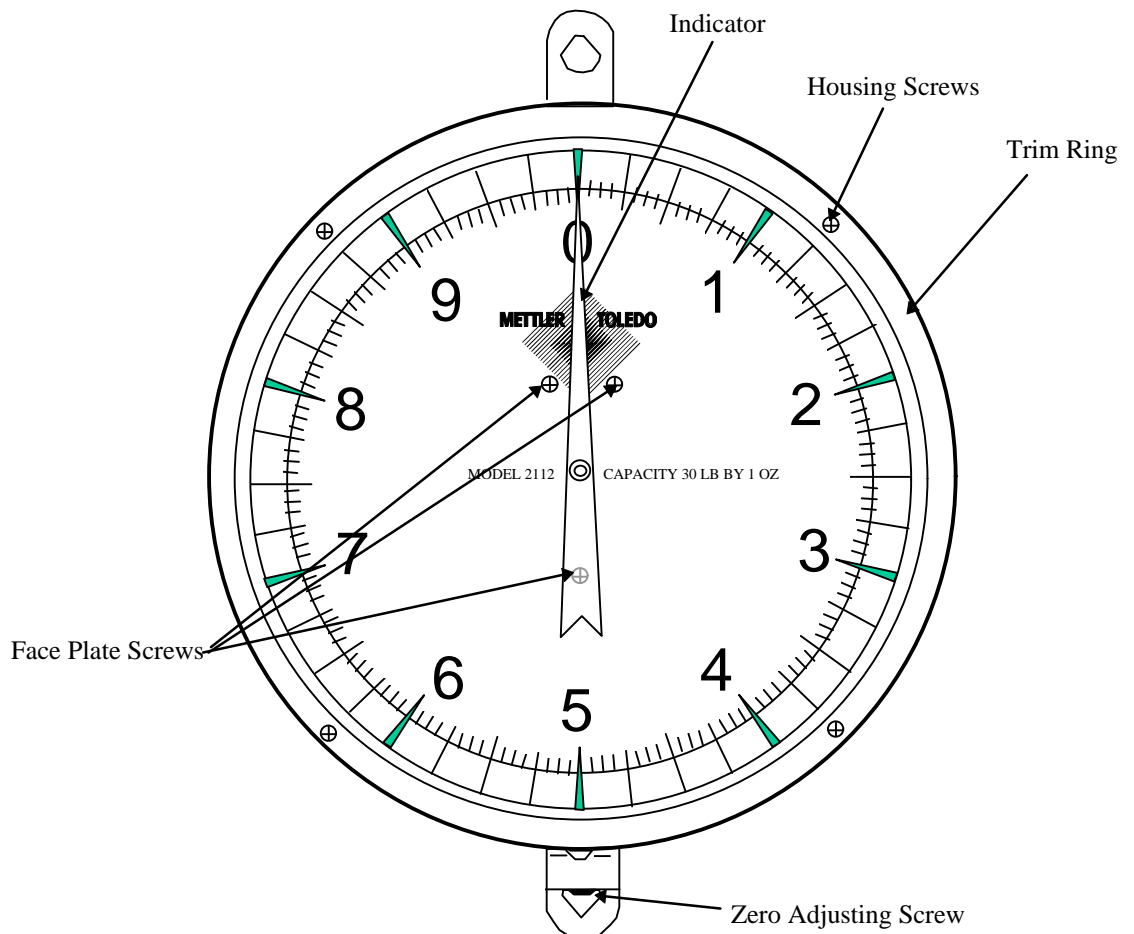

Figure 4-a
1. Place the scale on a clean flat working surface and remove both trim rings and glass by removing eight housing screws and four rod supports (Figure 4-a).
3. Remove three screws holding back chart to frame. Remove chart to expose inner mechanics of the scale (Figure 4-a).
Note: Refer to Figure 4-c for location of calibrators.